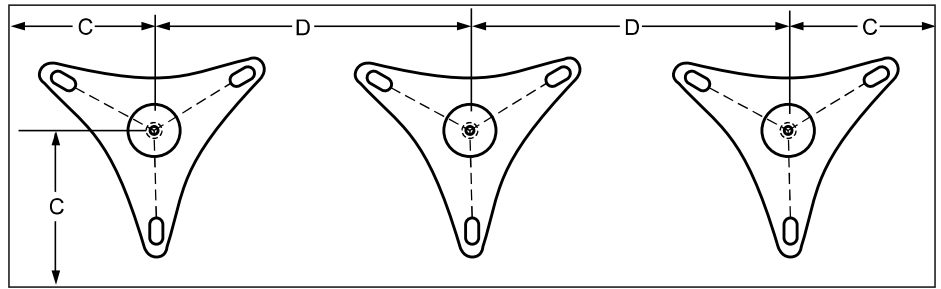
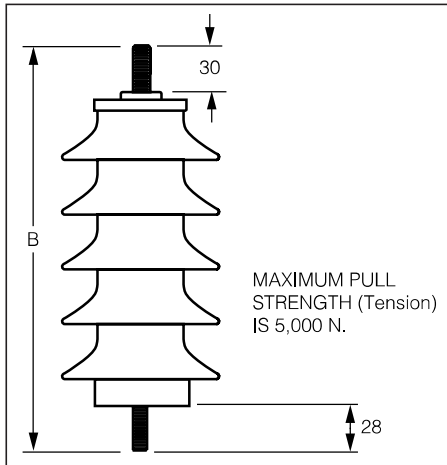

Figure 4.
Figure 5.
Figure 4 illustrates an in-line mounting arrangement; the applicable values of “B” and “C” may be found in Table 5. Line and Earth terminal details are shown on Page 7, options 11 and 12. Figure 5 shows an outline drawing of the standard UltraSIL housed VariSTAR Class 1 arrester. The values for dimension “A” for all ratings are listed in Table 5.
2. Refer to Figure 4 for illustrations of minimum spacing dimensions C and D and Figure 5 and 5a for dimensions A and B.